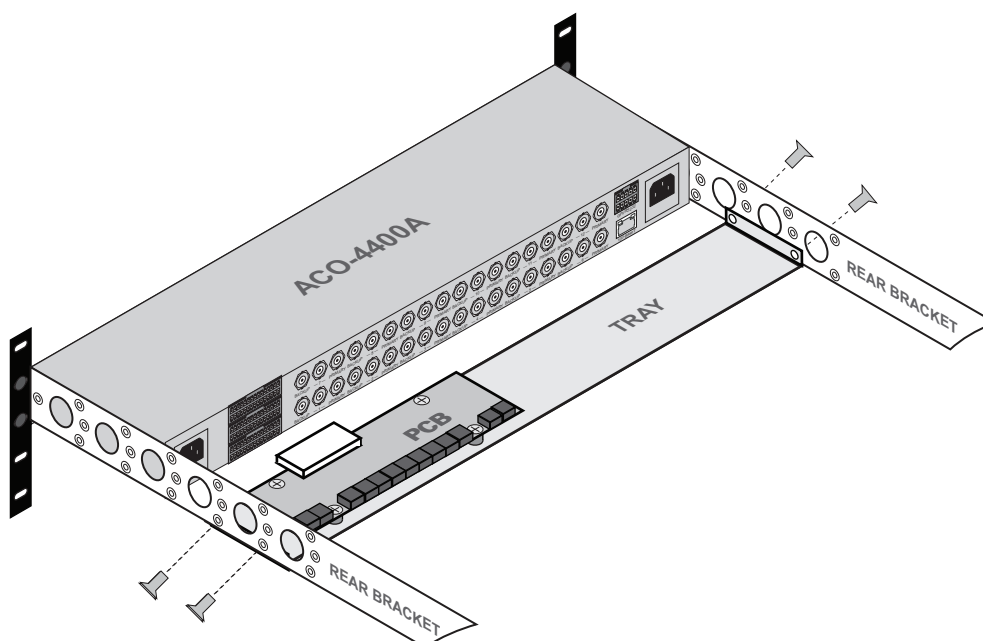

Figure 2.5 Installing the Breakout PCB and Tray to the Rear Brackets.
1. Position the Breakout PCB and Tray behind the ACO-4400A in the rack frame (**Figure 2.5**) while ensuring to:
2. Use the 4 provided M3 5mm screws to affix the Breakout PCB and Tray to the Rear Brackets of the ACO-4400A. Refer to **Figure 2.5**.